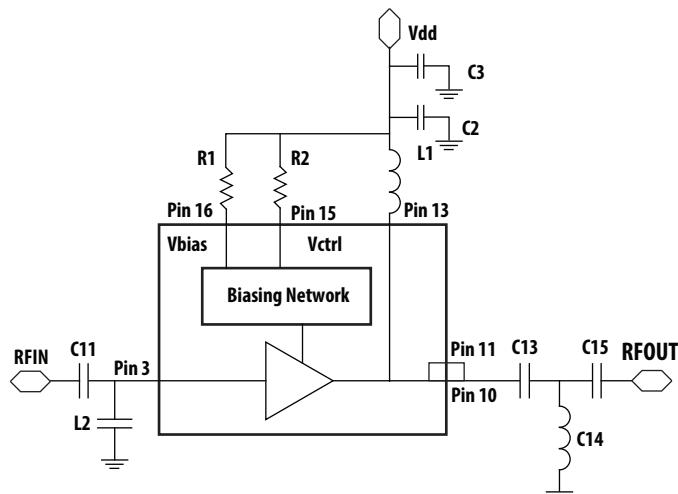

Figure 46. Circuit Diagram
1. Vbias and Vctrl can be externally controlled by change external biasing resistors  $R1 = R_{bias}$  and  $R2 = R_{ctrl}$  (as shown in Fig. 46).
1.  $V_{bias}$  and  $V_{ctrl}$  can be externally controlled by change external biasing resistors  $R1 = R_{bias}$  and  $R2 = R_{ctrl}$  (as shown in Fig. 46).